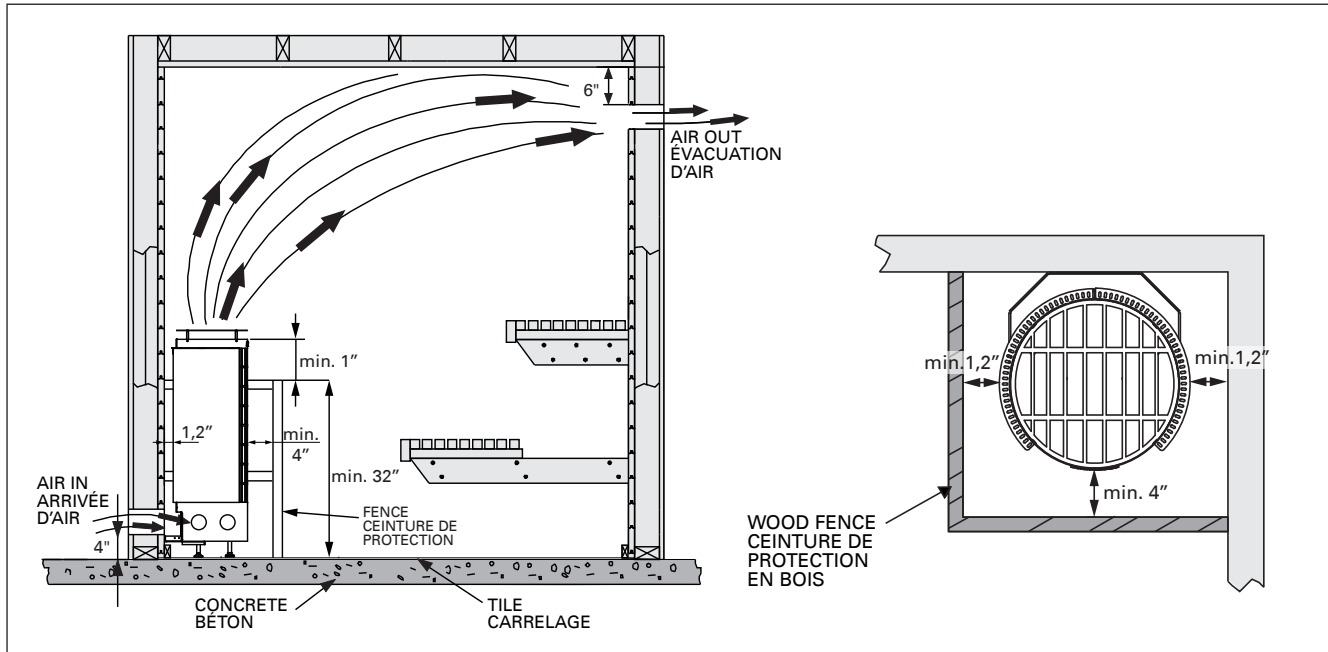

Figure 4. Ventilation of the sauna room and min. clearances from wall and fence
Should be provided by lower vent close to heater, 4" (100 mm) from floor, and upper vent on opposite wall (if possible) 6" (150 mm) from ceiling or as low as 24" (600 mm) from floor. Vents should be adjustable and should allow air to change 5 times per hour. Sauna shall be provided with intended ventilation as required per the local code authorities. See figure 4.
The minimum safety distances are described in figure 4 and 5.
It is necessary for safety and should be constructed of softwood to match sauna interior. See figures 4 and 5 for clearances from sauna heater. Fence should be attached to wall and should not be placed higher than top of heater below rock line.
1. Remove heater from carton and place in proper location in sauna room. Observe proper clearances as per figures 4 and 5. After final hookup, electrical contractor should secure heater to floor with at least two screws or bolts.